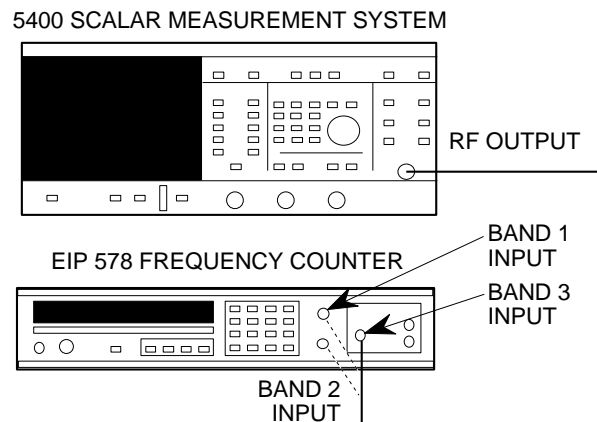

Figure 6-2. Equipment Setup for YIG Driver Adjustment Procedure
- Step 2** Connect the input of the microwave counter to the RF OUTPUT connector of the 54XXA (Figure 6-2). Select the correct band input on the counter for the frequency to be measured.